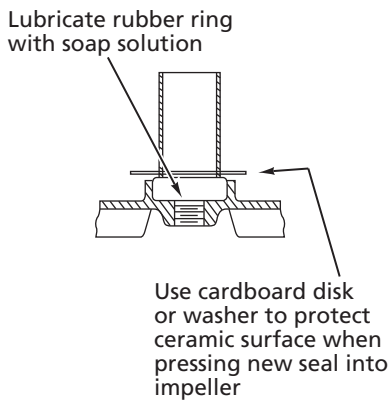

Figure 7
4. Lubricate the rubber ring in the impeller with a soap solution. Press seat into impeller cavity (Figure 7). If a tool or pipe is necessary to press ceramic seat correctly, use a cardboard disc or washer to protect the highly polished ceramic surface of the new seal.